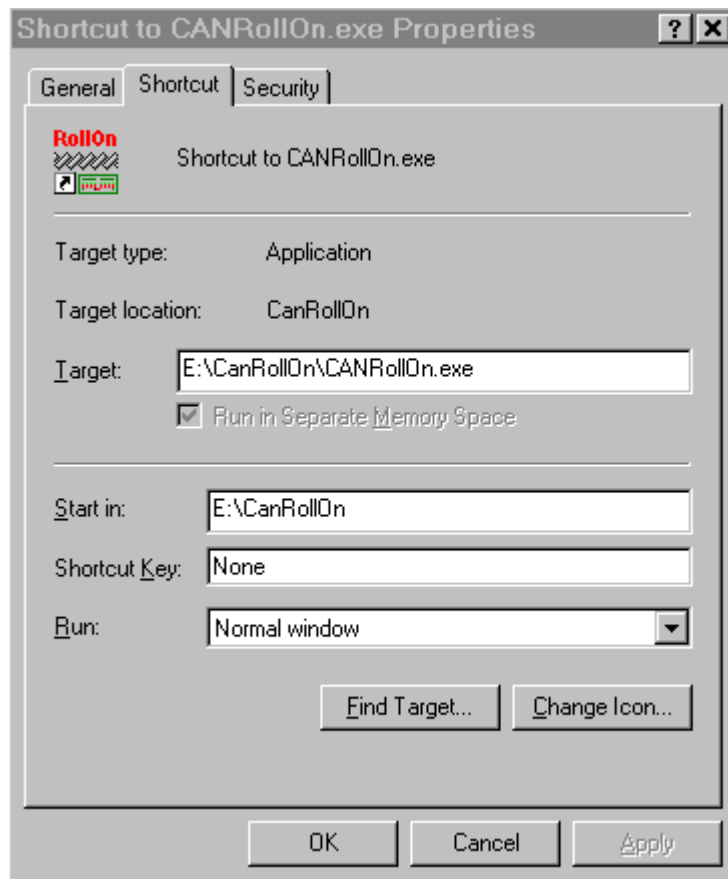

Fig. 7.6
- Click on **Shortcut** Tab item to open the dialog box shown in Fig. 7.6.
The full path of CANRollOn.exe appears in the **Target** window - Fig. 7.6.
- Enter the project database path **with a single space** after the destination in the Target window - Fig. 7.6.